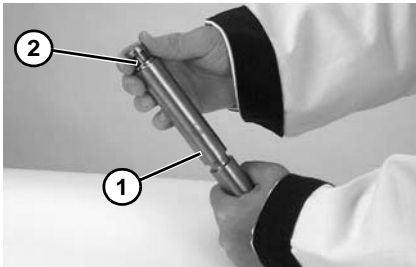

Figure 115
2. Inspect spindle (**Figure 115, item 1**). Replace if worn.
3. Slide bearing (**Figure 115, item 2**) onto spindle.